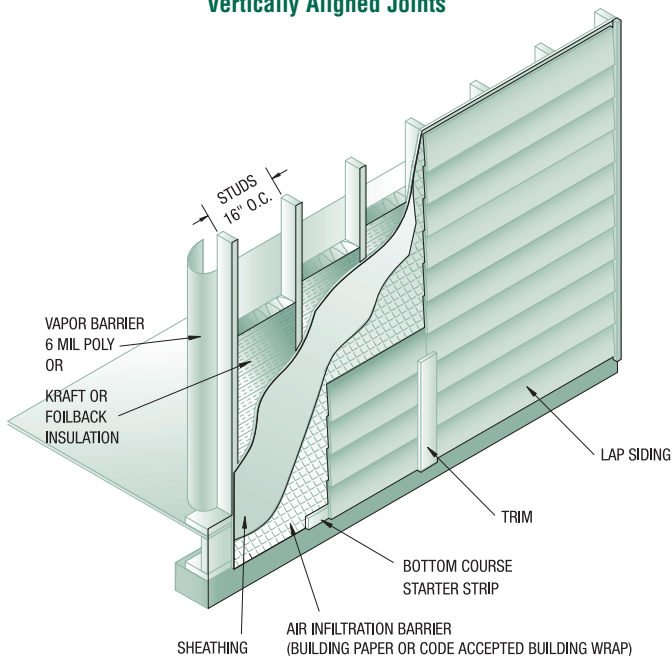

FIG. 6
- A continuous vapor barrier rated 1 perm or less is required across the interior side of all walls to be sided. Examples include 6 mil polyethylene and kraft-backed or foil-backed insulation stapled tightly to the face or sides of the studs. See Fig 6 and 7.
- Vertically align butt joints at a stud (See Fig 6), fasten as required, gap 3/16", caulk, and cover with trim.